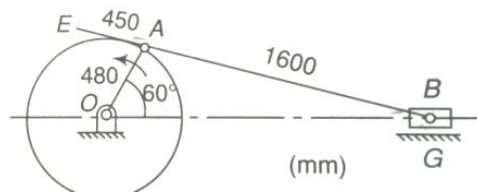

Figure 4
2. For the configuration of a slider crank mechanism shown in Fig.4, determine the